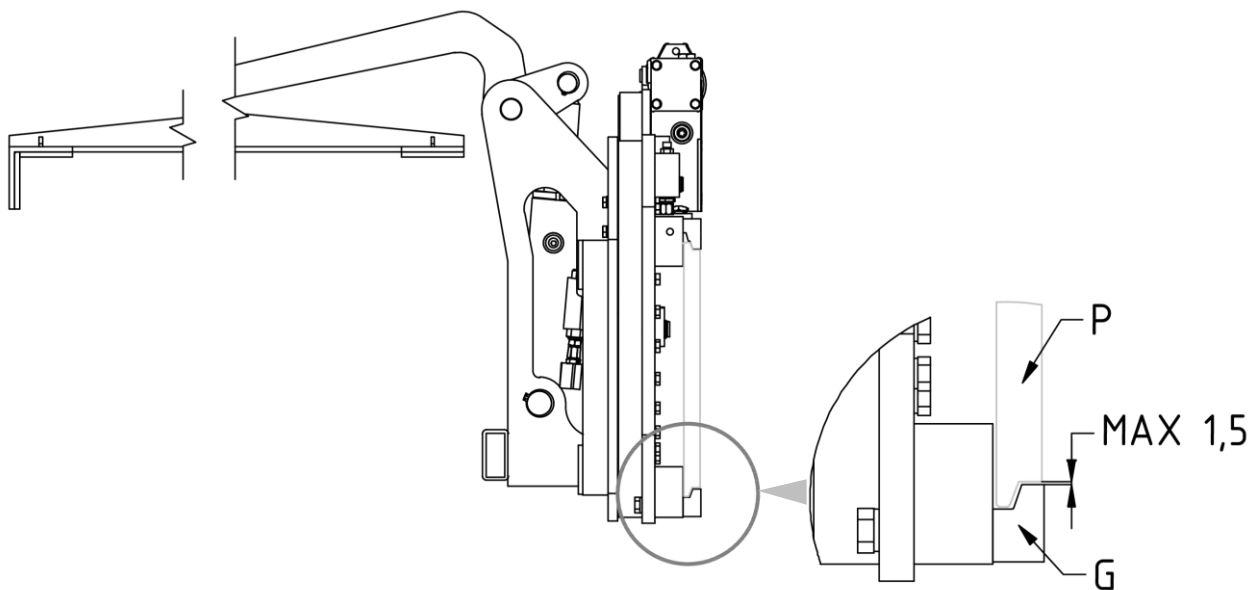
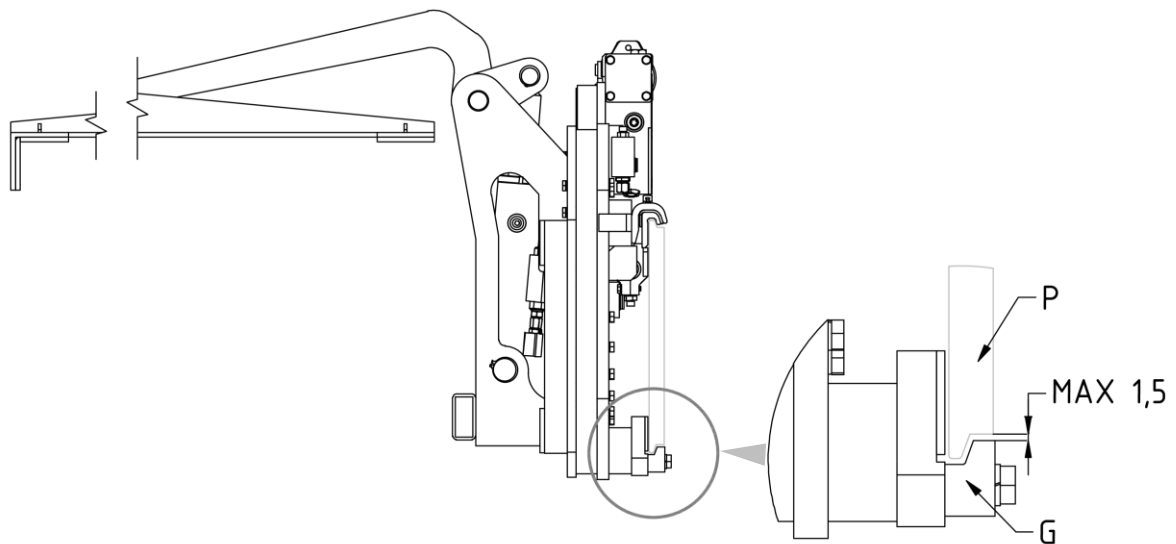

Figure 4
Figure 9
7. Screw on the 2 lower couplings **G** in such a way that their bodies also remains coupled to the lower part of the fork carriage **P** (with max. clearance of 1.5 mm, see detail *Figure 4*), tightening with the torque indicated in *Table 3*.
8. Screw on the 2 lower couplings **G** in such a way that their bodies also remains coupled to the lower part of the fork carriage **P** (with max. clearance of 1.5 mm, see detail *Figure 9*), tightening with the torque indicated in *Table 4*.
3. Check clearance between the lower part of the fork carriage and the lower equipment couplings, ensuring that it is as shown in *Figure 4* (page 12) and in *Figure 9* (page 16) and, if necessary, adjust the bolts holding them in place.